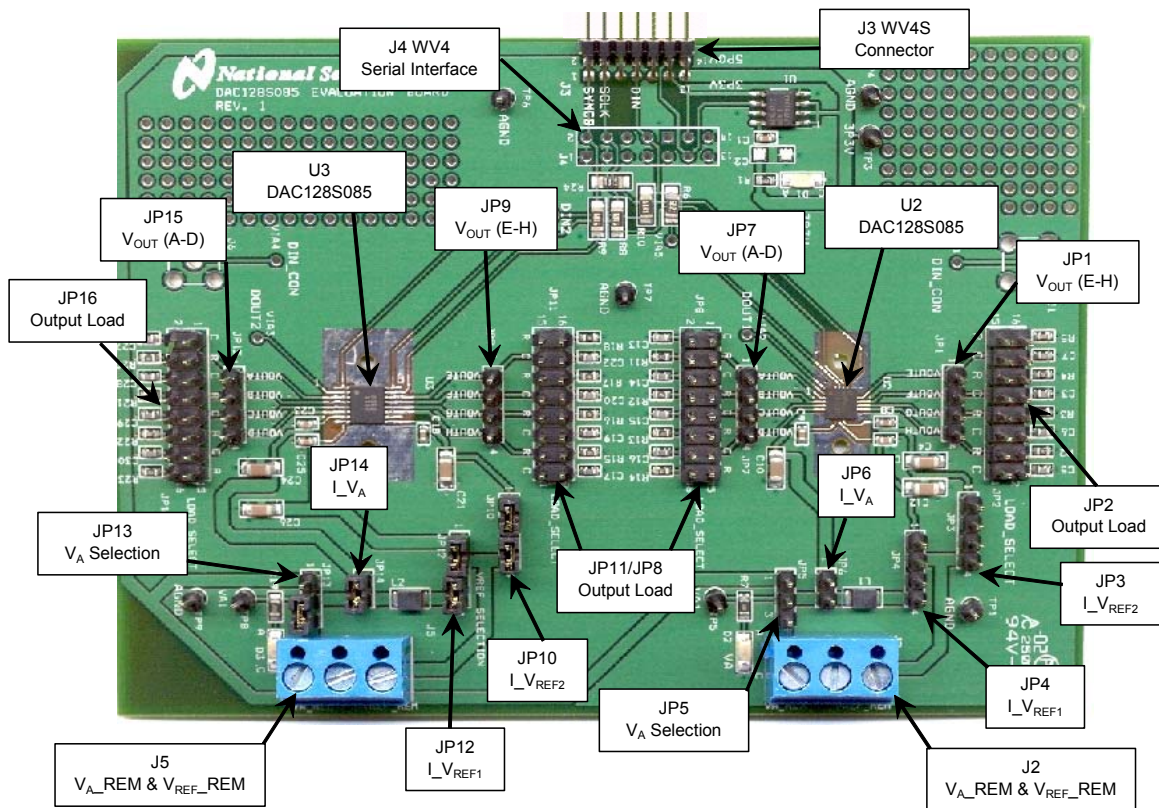
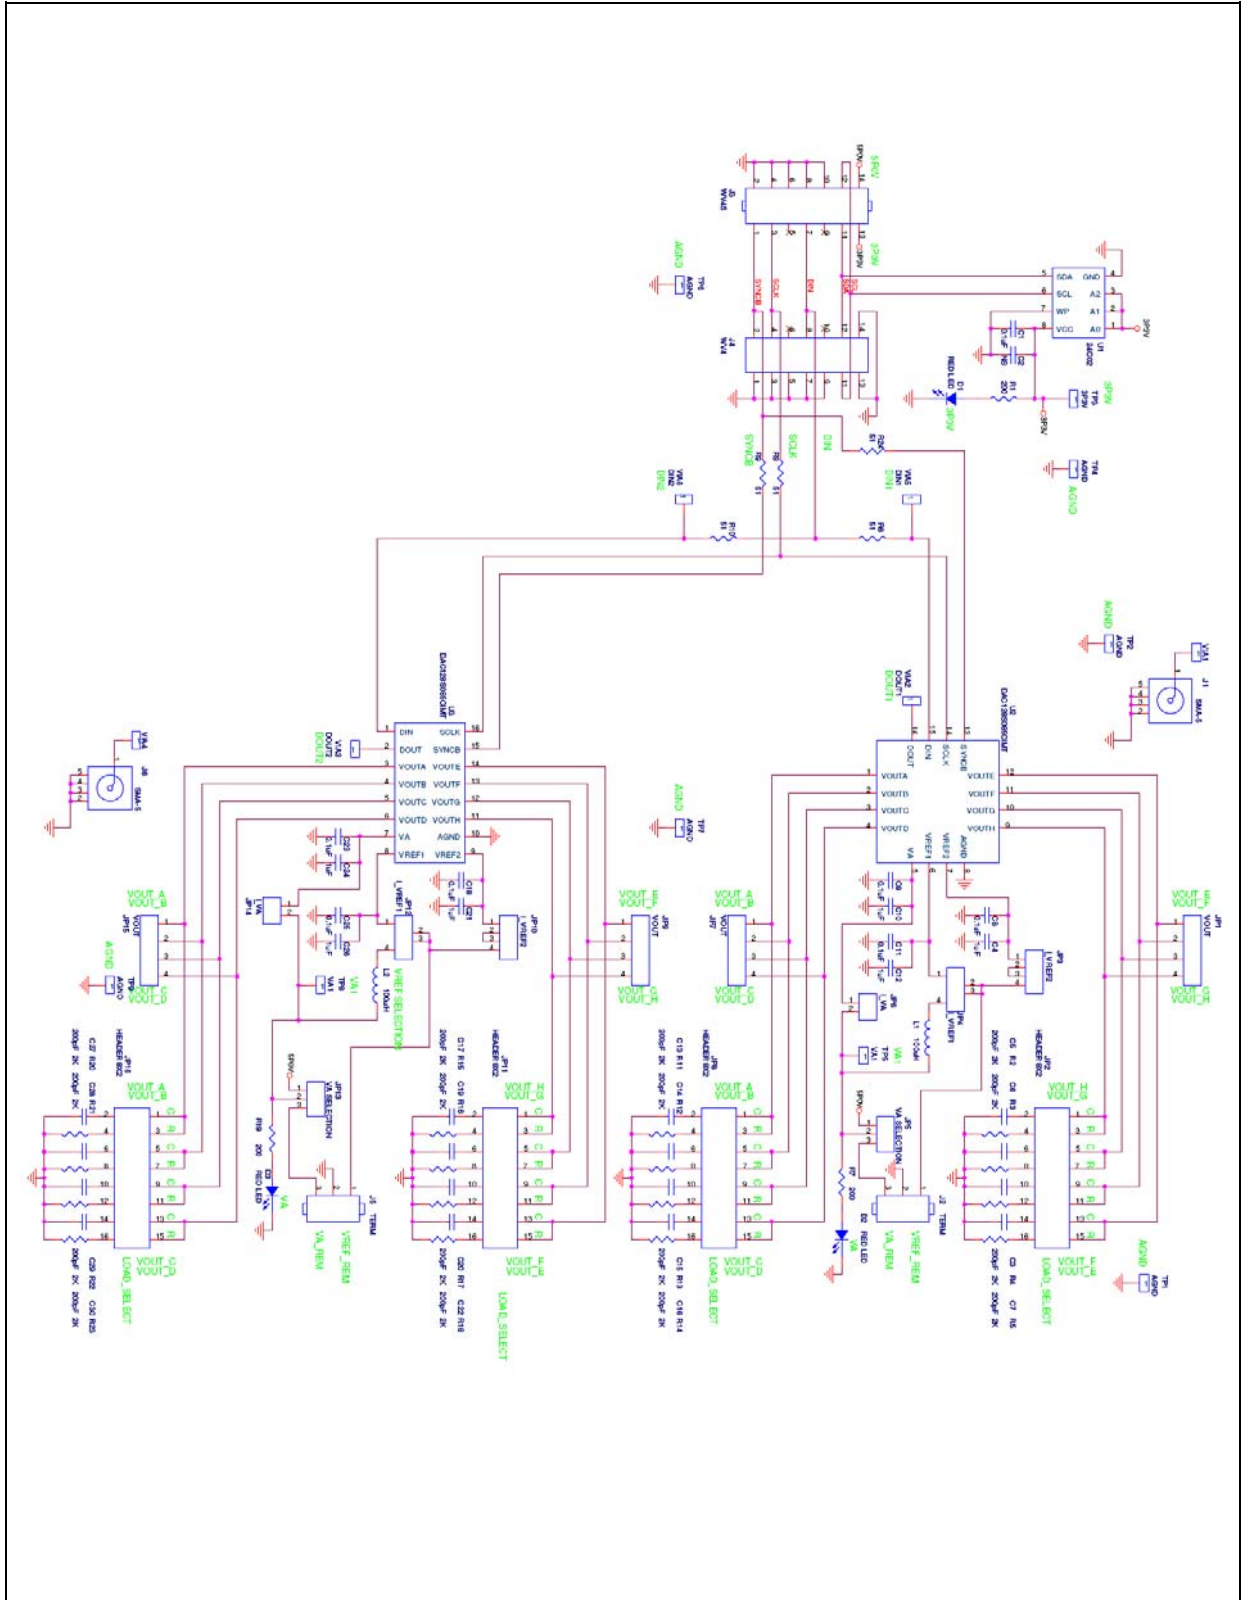

Figure 1: Locations of Test Points and Major Components
Figure 7: DAC128S085 Evaluation Board Schematic
The DAC128S085 evaluation board comes fully assembled and ready for use with the WV4 (or higher) system. Refer to the Bill of Materials for a description of components, to *Figure 1* for major component placement, and to *Figure 7* for the Evaluation Board schematic.
Refer to *Figure 1* or the evaluation board schematic (*Figure 7*) for locations of test points and major components.
8. Select the desired output load by adding jumpers to headers JP8/JP16 for outputs A-D and JP2/JP11 for outputs E-H. See *Figure 4* for the configuration of header JP8. Refer to *table 1* in Section 4.0 or the evaluation board schematic (*Figure 7*) for all configurations.
Refer to *Figure 1* for locations of test points and major components.
*Table 1* describes the function of the various jumpers on the DAC128S085 evaluation board. The Evaluation Board schematic is shown in *Figure 7*.